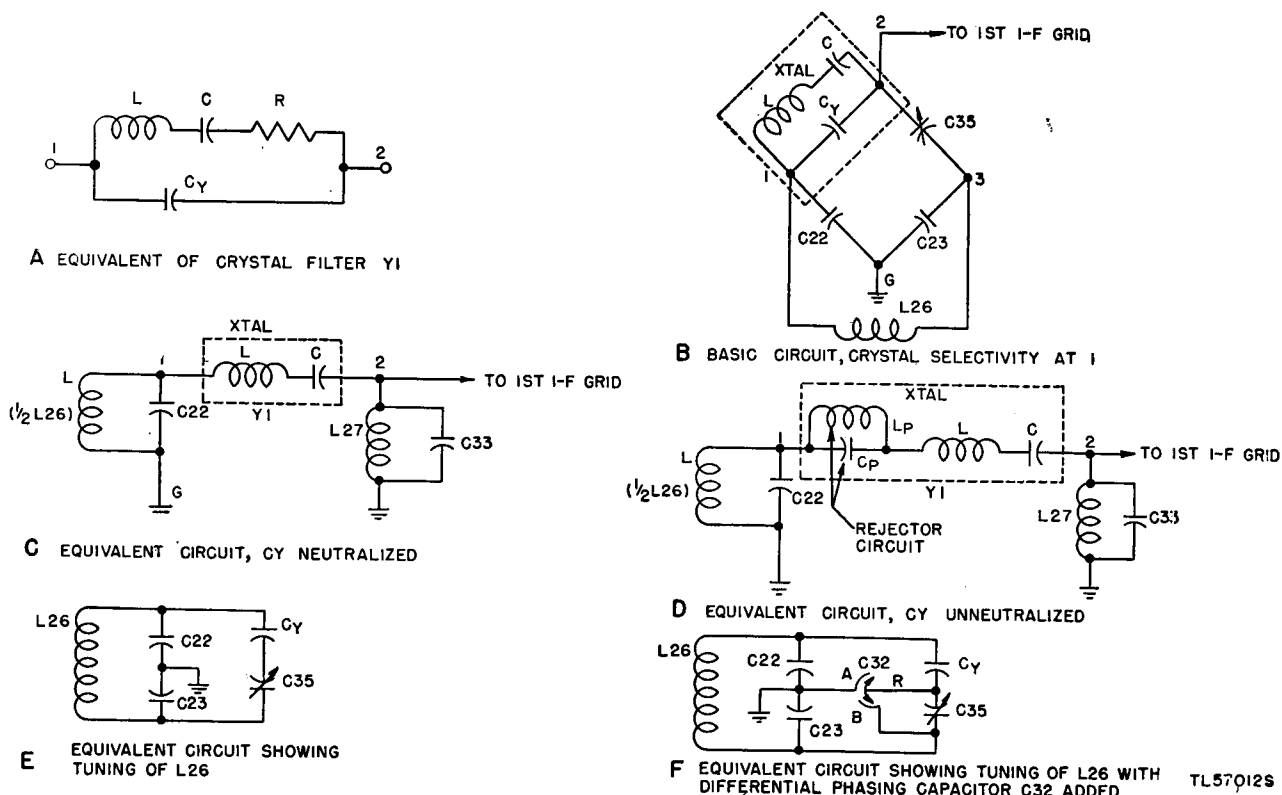

Figure 28. Radio Receiver BC-779-B, functional and equivalent diagrams of crystal filter circuit.
(4) Refer to appendix III for circuit details of Improvement Kit MC-531.
61. Crystal Filter (fig. 28)
a. EQUIVALENT CRYSTAL CIRCUIT. The equivalent electrical circuit of a crystal is shown in "A," figure 28. The circuit, and hence the crystal, are resonant at two frequencies: The frequency at which the reactance of L is equal to the reactance of C (series resonance), and the frequency at which the effective reactance of L-C (in series) is *inductive* and *equal* to the capacitive reactance of C_Y (parallel resonance). At the series-resonant frequency the crystal acts as a low-impedance connection between 1 and 2. At the parallel-resonant frequency the crystal acts as a high impedance between 1 and 2.
b. BASIC FILTER CIRCUIT ("B," fig. 28). Capacitors C22 and C23 (100 mmF each) are connected in series across the secondary of i-f input transformer L26, and their junction is grounded to provide a midpoint connection in the resonant circuit L26-C22-C23. Consequently, the capacitor voltages are always of equal amplitude but 180° out of phase. Phasing capacitor C35 (1.5 to 5 mmF) is connected between 3 and 2, and the crystal is connected between 1 and 2.
c. NEUTRALIZATION OF C_Y . Capacitors C22, C23, C35, and C_Y (the capacity between the crystal holder plates) form a capacity bridge; the input is applied to 1 and 3, the output is taken from 2 and G. When capacitor C35 is adjusted so that its capacitance is equal to that of C_Y , the voltage coupled from 3 through C35 to 2 is equal and opposite to the voltage coupled from 1 through C_Y to 2. Under this condition C_Y is neutralized and the crystal acts as a series-resonant circuit only ("C," fig. 28). Since the crystal is resonant at the intermediate frequency, there is (in effect) a direct connection between 1 and 2. As indicated in "C," figure 28, only the voltage across C22 (one-half the secondary voltage) is applied through the crystal to the grid circuit of the first i-f stage.
tance of L - C and the capacitive reactance of C_Y . For simplicity the parallel-resonant circuit is denoted as rejector circuit $L_P C_P$ in "D," figure 28. L_P and C_P denote the effective inductance and capacitance at the parallel-resonant frequency. L and C indicate the effective inductance and capacitance of the crystal at the series-resonant frequency, in this case the 465-kc i.f. In other words, unless C_Y is neutralized, the crystal acts simultaneously as a parallel- and series-resonant circuit. The parallel-resonant circuit $L_P C_P$ has no effect on the 465-kc i.f. but presents a high impedance to, and therefore rejects, the frequency to which $L_P C_P$ is resonant. L and C present extremely low impedance to the 465-kc i-f signal voltage and high impedance to voltages at different frequencies. *With underneutralization the resonant frequency of $L_P C_P$ is higher than 465 kc.*
f. **CAPACITOR C32.** Capacitor C_{35} , in series with capacitance C_Y , is across L_{26} and affects its tuning ("E," fig. 28). To avoid the detuning effect and to enable shifting the rejection frequency to either side of the i.f., differential PHASING capacitor C_{32} ("F," fig. 28) is used in the radio receiver. Stator sections A and B are so arranged that, as rotor R is turned out of one stator into the other, the capacitance of the first *decreases* by the same amount that the capacitance of the second *increases*. Thus, whether the rotor is entirely engaged in stator A, is at a midpoint, or is entirely in stator B, the effective capacitance across A-B, and therefore across L_{26} , remains constant. Assume that C_{32} , the PHASING capacitor, is set at the arrow position of the PHASING control on the front panel and
(2) *CRYSTAL SELECTIVITY switch at 1.* When CRYSTAL SELECTIVITY switch SW7 is placed at 1, the short is removed from the crystal. If the secondary of L26 and the parallel-resonant grid circuit, L27-C33, are tuned to 465 kc, each is the equivalent of a high resistance in series with the equivalent series-resonant circuit of the crystal ("C," fig. 28). Consequently, the *Q* and therefore the selectivity of the series-resonant (crystal) filter circuit is reduced, and the bandwidth is several kilocycles wider than that of the crystal alone.